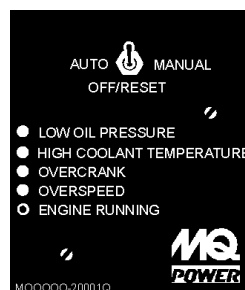

Figure 39. MPEC Engine Running Status LED
8. After engine starts, verify that the "Engine Running" status LED (Figure 39) on the Microprocessor Engine Control Module (MPEC) display is "ON" (lit).